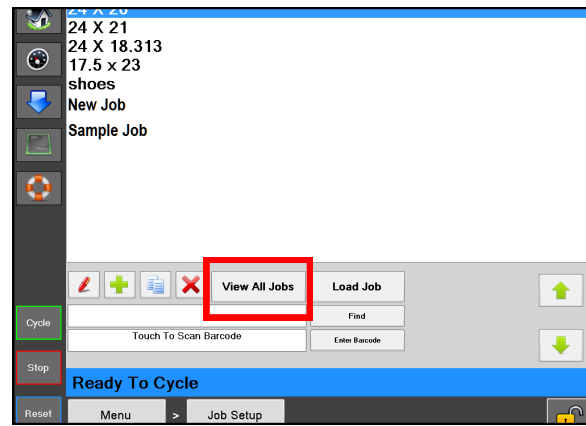

Figure 5-3C. Load Job Button.
5. Press the Load Job Button. This will send the highlighted job to the PLC and send the label, if applicable, to the printer. Figure 5-3C.